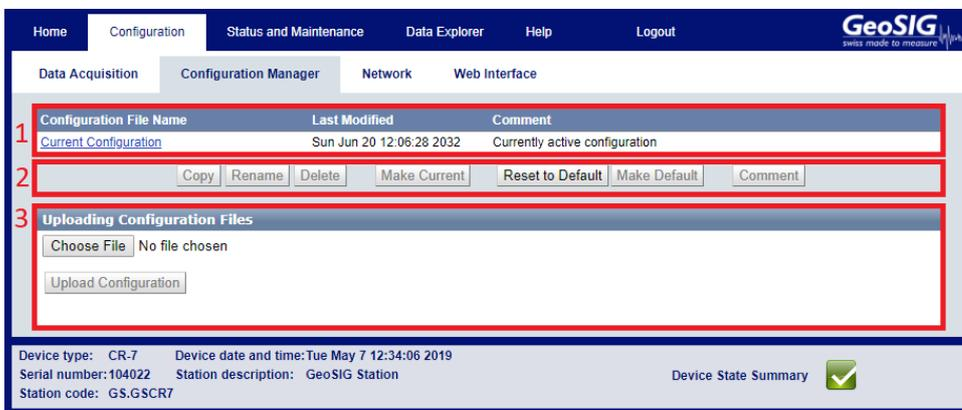

Figure 38: Configuration Manager screen
As described in the previous chapter, the *Data Acquisition* screen only allows configuring the currently used configuration. The **Configuration Manager** screen described in this chapter allows managing several configurations, changing the current configuration, uploading a new configuration and so on. As depicted in Figure 38, the screen is divided into three sections:
1. **The Configuration List:** This list contains all configurations currently available on the main storage media. The *Current Configuration* is always listed here. This configuration can be copied and downloaded but not renamed, removed or made the current configuration (as it is already the current). As depicted in Figure 38, these options become available to other configurations stored on the device (in this example after uploading a file to the device). When pressing **Use as Current Configuration** it will store this configuration as the *Current Configuration*. The existing configuration will be overwritten and the instrument restarted. Note that only the *Current Configuration* can be edited in the *Firmware* screen. The other configuration files will remain untouched. The *Current Configuration* can be saved in a file by pressing **Copy**.